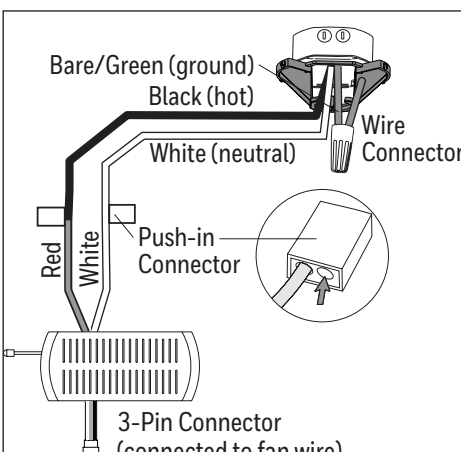

Figure 5.1
- Use wire connectors and push-in connectors to connect the receiver and fan wires to the supply wires from outlet box according to the wiring diagram and the following instructions (Figure 5.1):